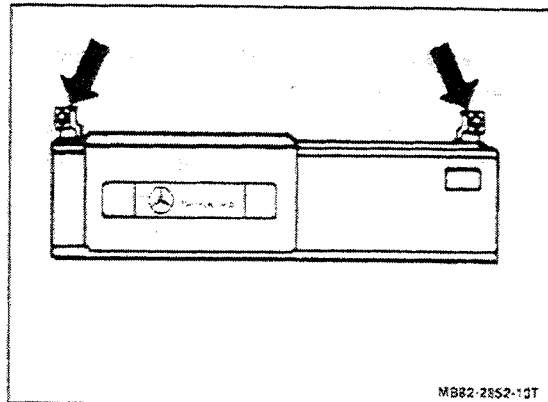

Figure 3
10. Install side brackets on top of CD changer unit with the mounting holes of the brackets facing out (Fig. 3). Secure with two M4x6 bolts.